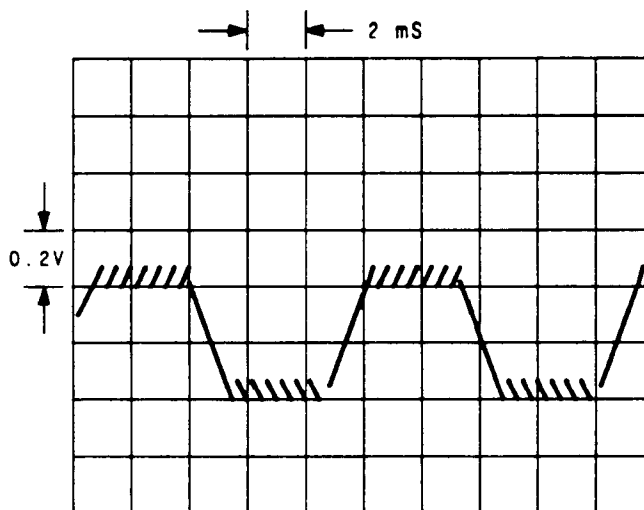

Figure 2. Oscilloscope display of TP3 (dc coupled), Signal Generator's frequency 950 MHz, modulation EXT FM 3 kHz deviation (100 Hz square wave).
4. Connect Chan 2 to TP3 (Φ M INPUT). Verify that the oscilloscope display shown in Figure 2 is correct. If the waveform is not correct continue with $\boxed{\sqrt{2}}$.